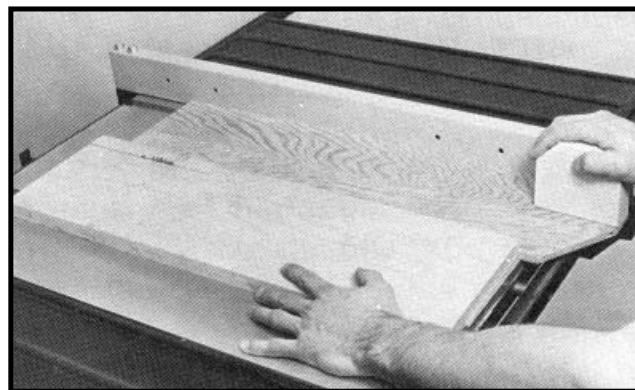
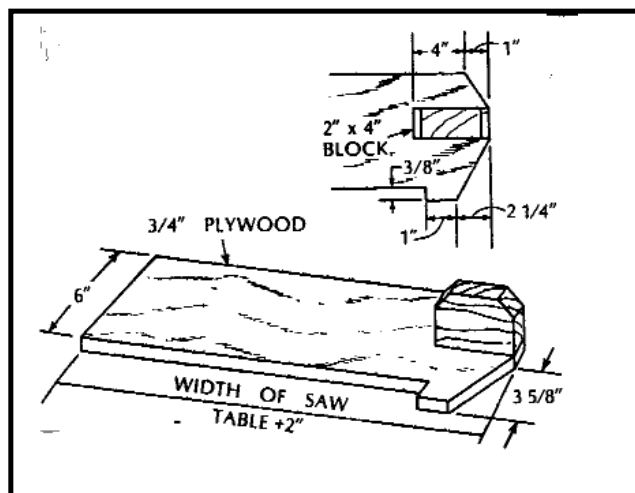

Fig. 42
Fig. 43
3. Ripping narrow pieces can be dangerous if not done carefully. Narrow pieces usually cannot be cut with the guard in position. If the workpiece is short enough, use a pushboard. When ripping material under 2 inches in width, a flat pushboard is a valuable accessory since ordinary type sticks may interfere with the blade guard. When using a pushboard, the width of the pushboard must be added to the width of the rip fence position setting. A flat pushboard can be constructed as shown in Fig. 43 and should be used as shown in Fig. 42